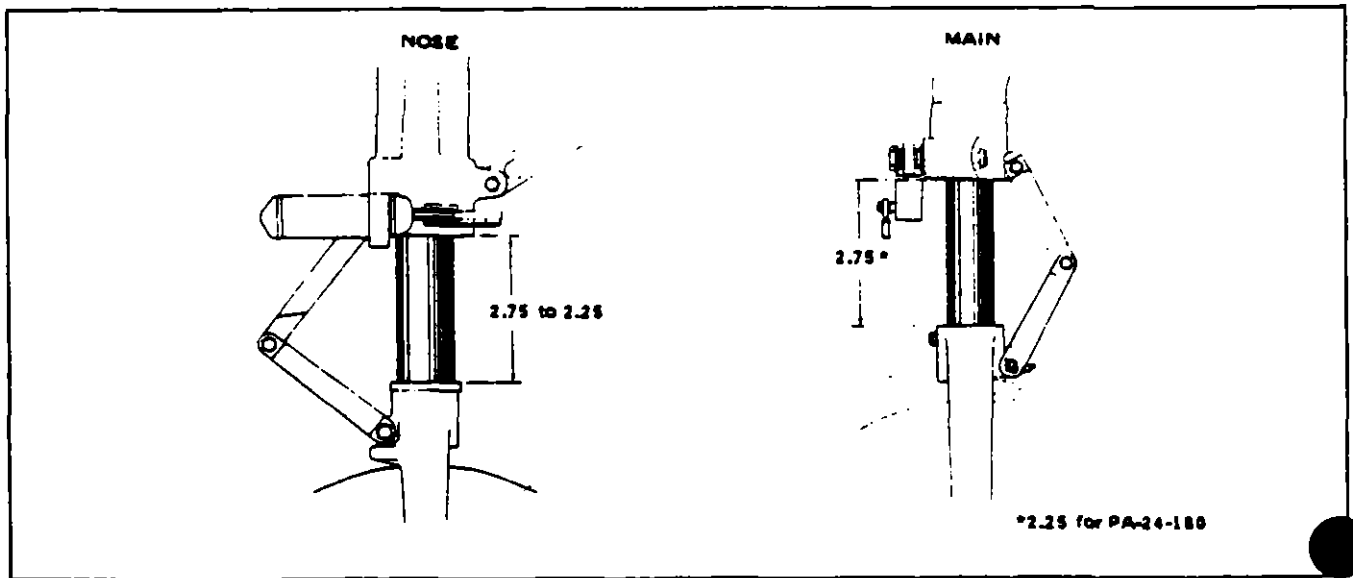

FIGURE 2-13. LANDING GEAR STRUT (EXPOSURE)
2-33. **Servicing Oleo Struts.** The air-oil type oleo strut should be maintained at proper strut tube exposures for best oleo action. (Refer to Figure 2-13 ) These measurements are taken with the airplane sitting on level surface under normal static load. ( Empty weight of airplane plus full fuel and oil ) If the strut has less tube exposure than prescribed, determine whether it needs air or oil by rocking the airplane. If the oleo strut oscillates with short strokes (approximately one inch) and the airplane settles to its normal position within one or two cycles after the rocking force is removed, the oleo strut requires inflating. Check the valve core and filler plug for air leaks, correct if required, and add air as described in Paragraph 2-35. If the oleo strut oscillates with long strokes (approximately three inches) and the airplane continues to oscillate after the rocking force is removed, the oleo struts require fluid. Check the oleo for indications of oil leaks, correct if required, and add fluid as described in Paragraph 2-34. For repair procedures of the landing gear and or oleo struts, refer to Section VI.
**2-35. Inflating Oleo Struts.** After making certain that an oleo strut has sufficient fluid, attach a strut pump to the air valve and inflate the oleo strut. The gear struts should be inflated to provide correct extension with normal static load. (Empty weight plus full fuel and oil.) (Refer to Figure 2-13.) Rock the airplane several times to ascertain that the gear settles back to the correct strut position. (If a strut pump is not available, the airplane may be raised and line pressure from a high pressure air system used. Lower the airplane and while rocking it, let air out from the valve to bring the strut down to the proper extension.) Before capping the valve, check for valve core leakage.